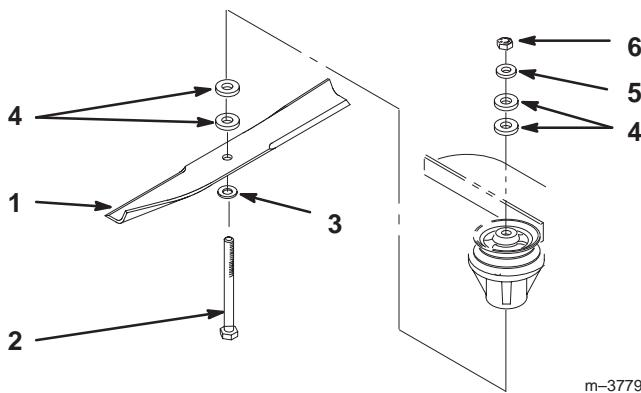

Figure 21
- Hold blade bolt and remove nut. Slide bolt down, through spindle, and change spacers as required (Fig. 21).
- Insert bolt, add extra spacer(s), and secure with thin washer and nut (Fig. 21).